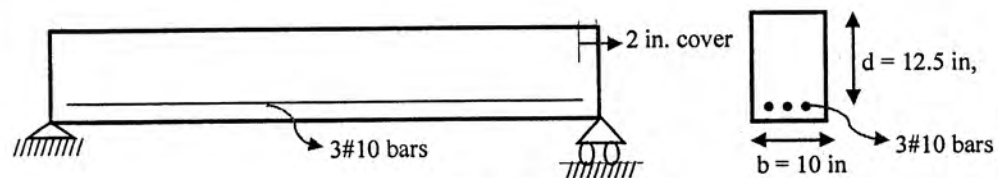

Figure 5
- (b) Why temperature and shrinkage reinforcements are required in one-way slab? What are the ACI/BNBC recommended ratio for such steel? (3)
8. (a) A simply supported beam shown in **Figure 5** of 18.75 ft clear span is to carry service dead load of 1.0 k/ft (including self-weight) and service live load of 1.18 K/ft. Reinforcement of the beam consists of three No. 10 bars (following USD method) at 12.5 in. effective depth. Center bar is to be discontinued where no longer required. Calculate the point where center bar can be discontinued according to ACI code provision. Given, $f'_c = 3$ ksi and $f_y = 60$ ksi. (5)